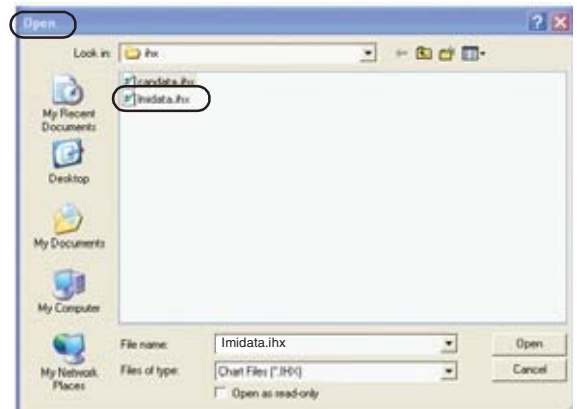

FIGURE 17
14. A screen will drop down called **Open** (see Figure 17).
15. Locate and click **Imidata.iHX** icon to select file (see Figure 17). The hex file will now download the capacity charts. The screen will display **Process Complete/ Timed Out** when files are fully loaded and file closes automatically.